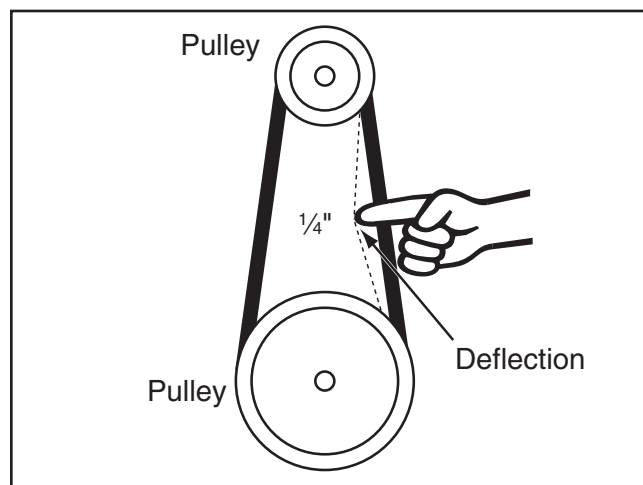

Figure 151. Testing for correct of belt tension.
4. Push motor down until there is approximately 1/4" deflection when you use moderate pressure between pulleys (see **Figure 151**), then tighten bolts loosened in **Step 3**.